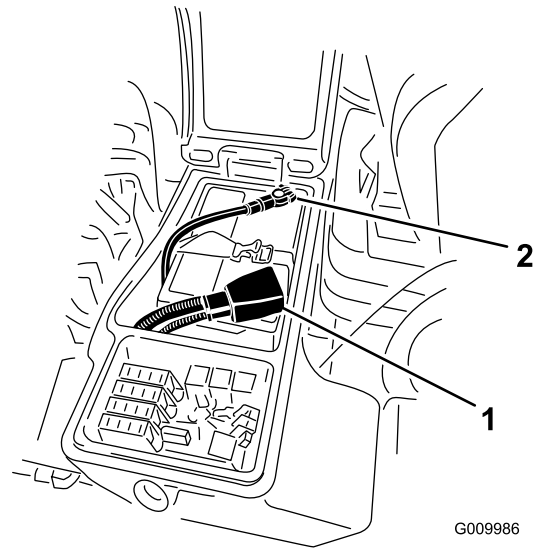

Figure 59
3. Remove the negative cable (black) from the negative (-) terminal and the positive cable (red) from the positive (+) terminal of the battery (Figure 59).
6. Install the positive cable (red) to the positive (+) terminal and the negative cable (black) to the negative (-) terminal of the battery (Figure 59).